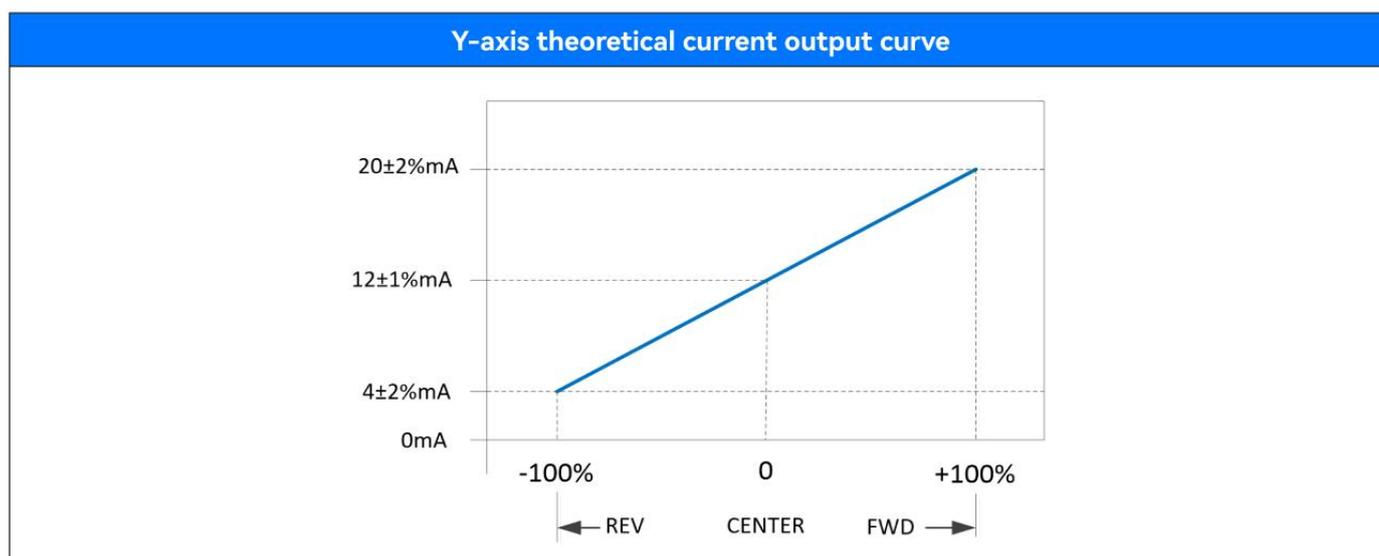

Figure 2.1
- (1) The scale range is 0~100, the background color is green before and red after, the scale line and digital white, the backlight is adjustable, and the brightness is adjusted by the circuit board knob;
- (2) Constant operating torque, adjustable rotating torque and caton point feel, good feel;
- (3) Output mode: 4~20mA current output, linear relationship with the scale, as shown in Figure 2.1.